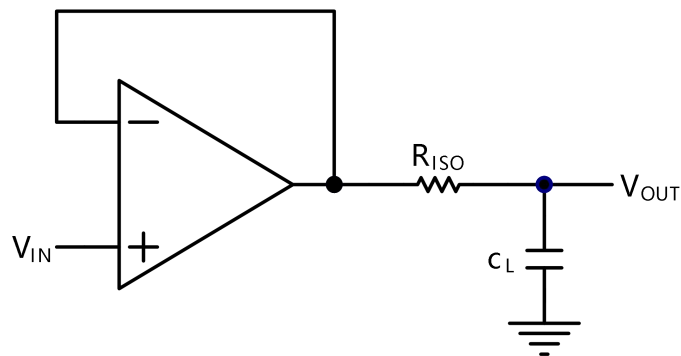
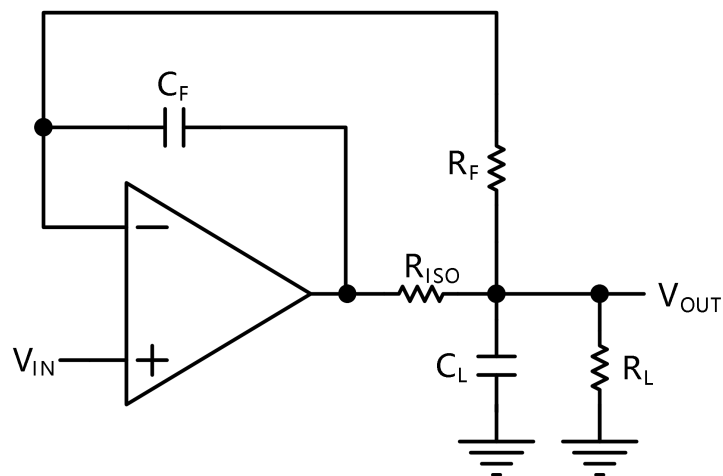

Figure 2. Indirectly Driving a Capacitive Load Using Isolation Resistor
Figure 3. Indirectly Driving a Capacitive Load with DC Accuracy
The CBM805X family is optimized for bandwidth and speed, not for driving capacitive loads. Output capacitance will create a pole in the amplifier's feedback path, leading to excessive peaking and potential oscillation. If dealing with load capacitance is a requirement of the application, the two strategies to consider are (1) using a small resistor in series with the amplifier's output and the load capacitance and (2) reducing the bandwidth of the amplifier's feedback loop by increasing the overall noise gain. Figure 2. shows a unity gain follower using the series resistor strategy. The resistor isolates the output from the capacitance and, more importantly, creates a zero in the feedback path that compensates for the pole created by the output capacitance.
The circuit in Figure 3 is an improvement to the one in Figure 2.  $R_F$  provides the DC accuracy by feed-forward the  $V_{IN}$  to  $R_L$ .  $C_F$  and  $R_{ISO}$  serve to counteract the loss of phase margin by feeding the high frequency component of the output signal back to the amplifier's inverting input, thereby preserving the phase margin in the overall feedback loop. Capacitive drive can be increased by increasing the value of  $C_F$ . This in turn will slow down the pulse response.